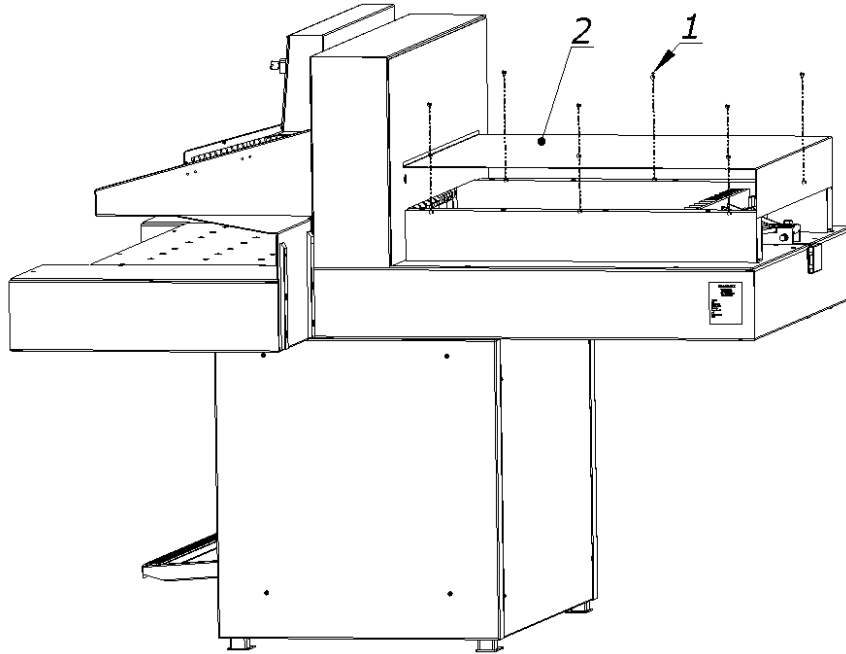

Figure. 42 How to remove the cover
8.4.1 unscrew the screws 1 (fig.42)
8.4.2 remove the cover 2 (fig.42)